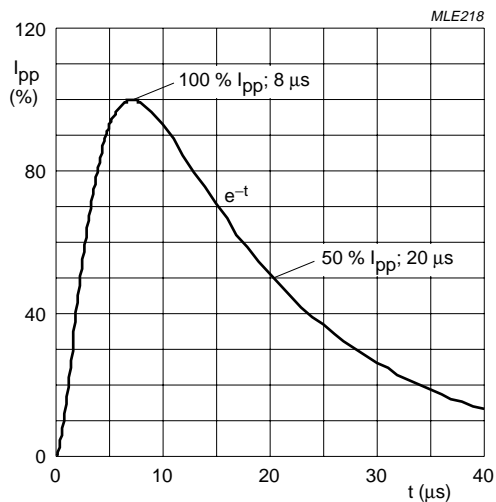

Fig.2 8/20  $\mu s$  pulse waveform according to IEC 61000-4-5.
1. Non-repetitive current pulse 8/20 μs exponentially decaying waveform; see Fig.2.
1. Non-repetitive current pulse 8/20  $\mu\text{s}$  exponentially decaying waveform; see Fig.2.